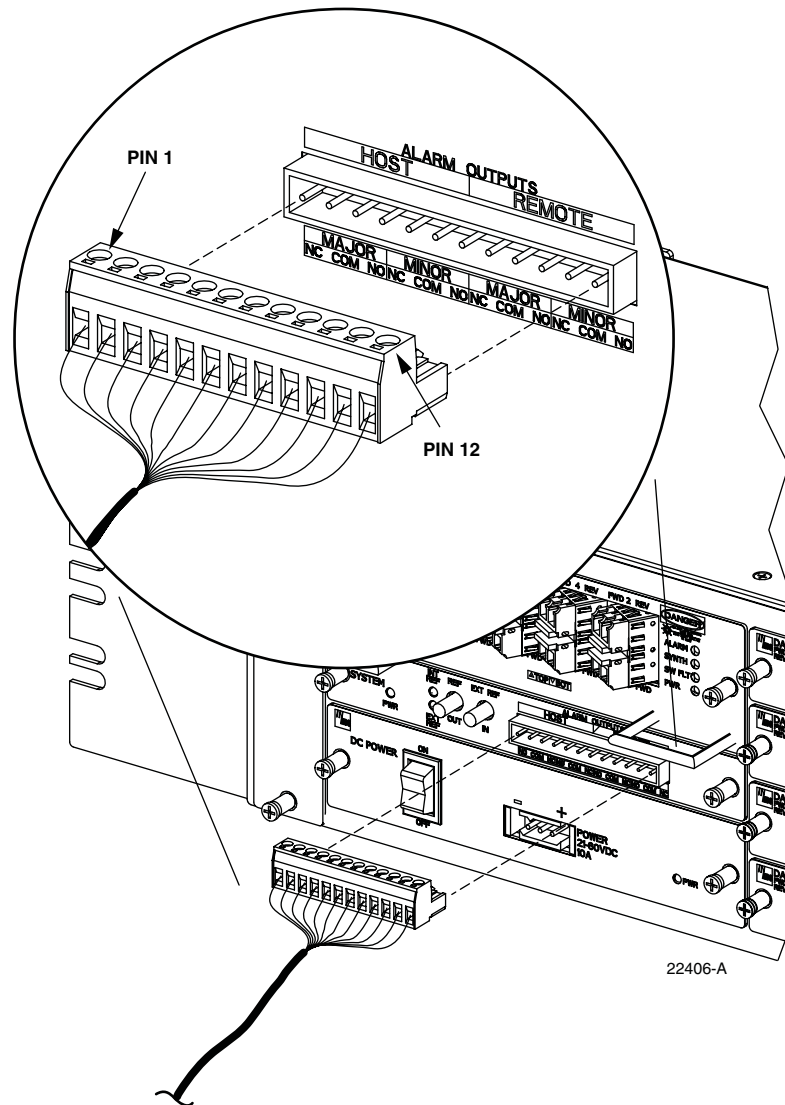

Figure 18. Alarm System Connections
4. Connect the Major alarm wire pair to the MAJOR COM/NC or MAJOR COM/NO terminals (whichever is required by the alarm system) on the HU System card alarm terminal connector (supplied with HU System card) as shown in Figure 18.
5. Connect the Minor alarm wire pair to the MINOR COM/NC or MINOR COM/NO terminals (whichever is required by the alarm system) on the HU System card alarm terminal connector (see Figure 18 and Table 4).